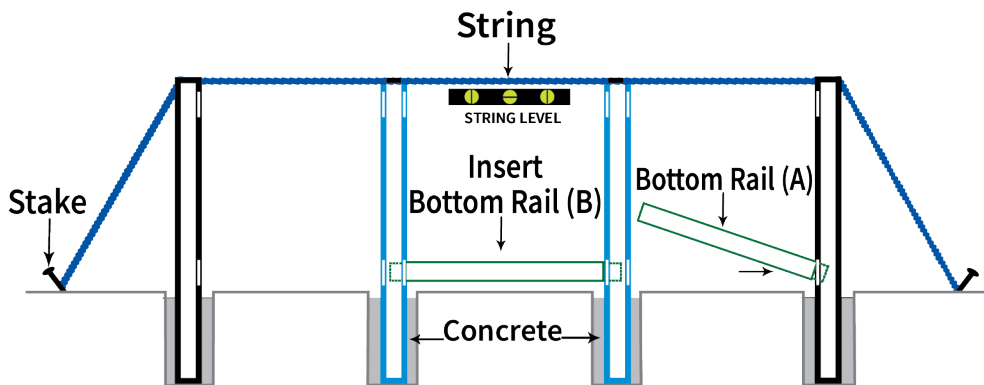

Fig.A2
First, Insert the steel insert in the bottom rail then insert the Bottom Rail (A), groove side up into the bottom hole of the post. Starting at end or corner place the next post into the next hole. Now slide the next Bottom Rail into the bottom hole of the next post (Fig. A2). Repeat these steps until all rails are inserted (B).